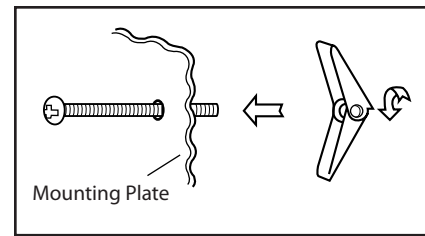

Figure 18
1. Separate 4 Toggle Bolts ②, packed in the INSTALLATION HARDWARE, from the Toggle Nuts.
2. Use Wood Screws ① to attach Mounting Plate to the stud or studs. Use Toggle Bolts to attach Mounting Plate through the holes at A, B, C and D; UNLESS THOSE HOLES ARE LOCATED ON THE STUD. Insert one Toggle Bolt into A, B, C and D where appropriate (these correspond to the holes of the Wall Template) and put the Toggle Nuts onto the Toggle Bolts. Figure 18.